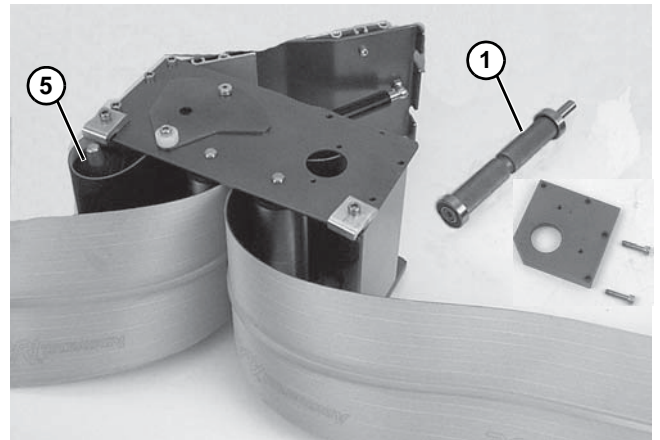

Figure 38
- For 5" (127 mm) or wider conveyor, depress both sides of spring-loaded shaft and remove pulley (**Figure 38, item 5**).